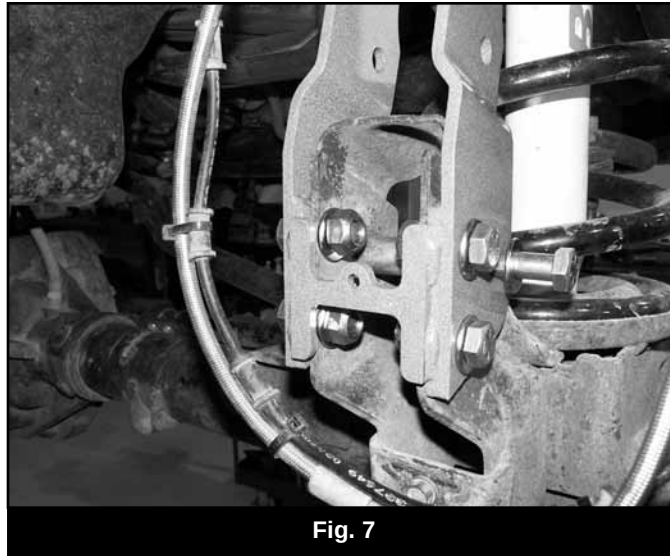

Fig. 7
29. With all of the holes drilled, reattach the bracket to the axle and install the 9/16" x 5" bolt with 9/16" SAE washers and nut (bolt pack #614) in conjunction with the provided 7/8" x 2-3/8" spacer sleeve (72-1) placed in the OE upper control arm mount location. (Fig. 7) Leave hardware loose.